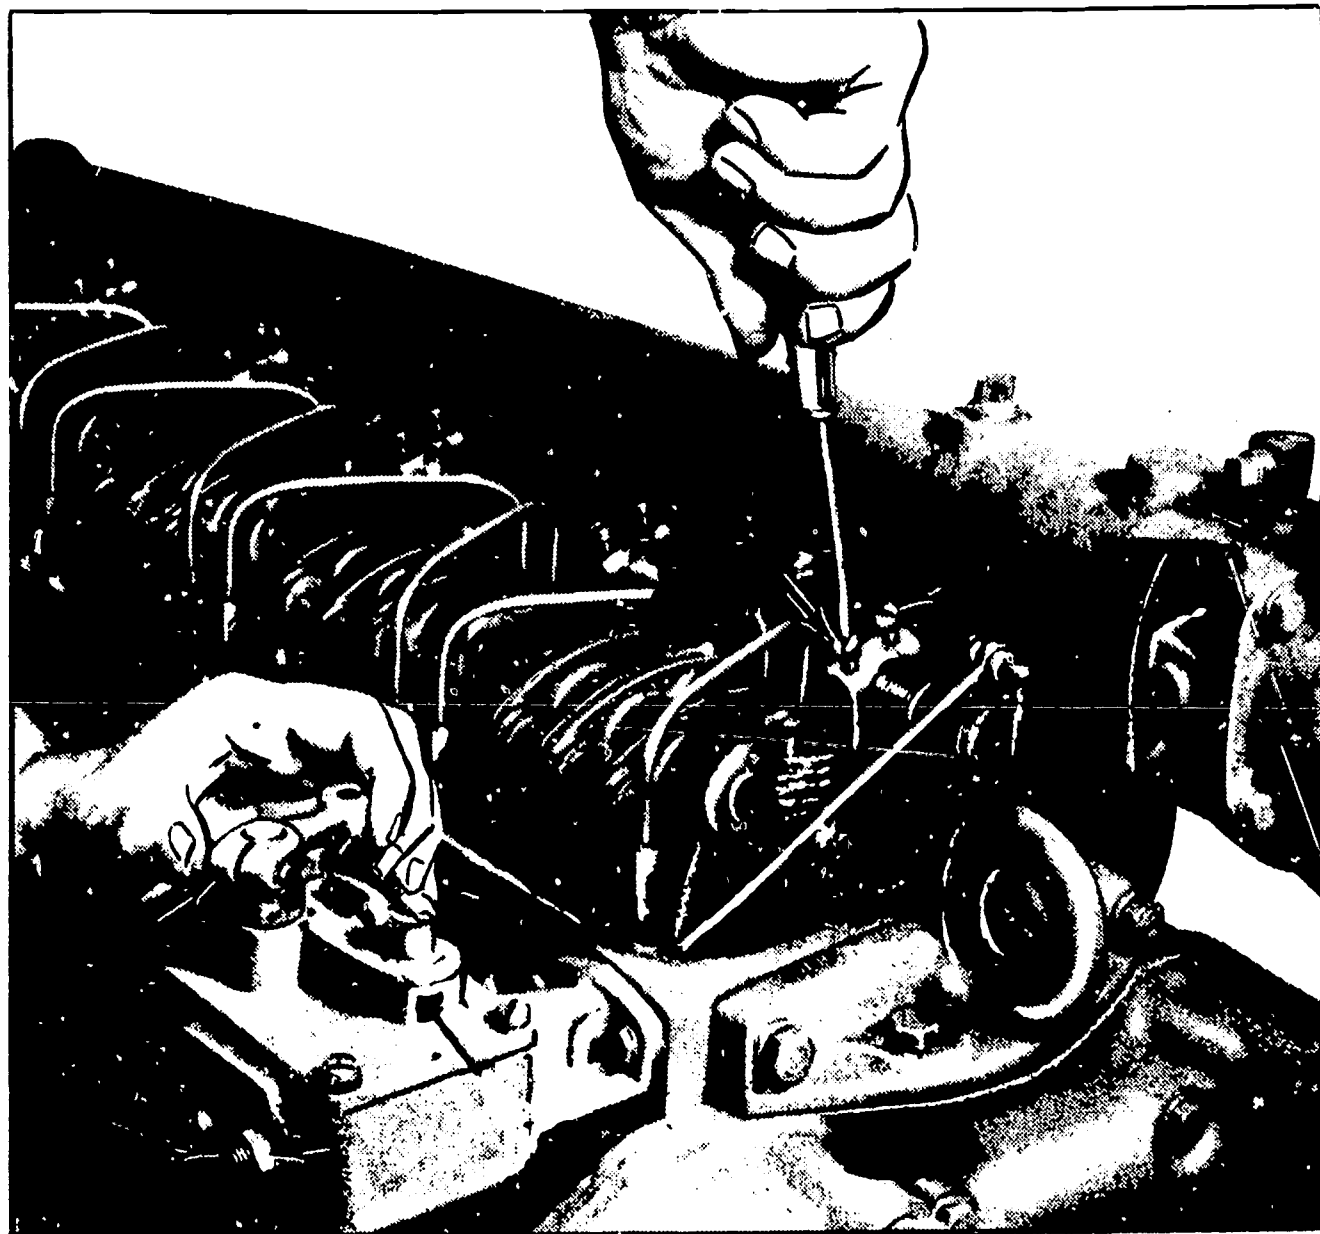

Fig. 5 - Positioning rack control levers.
4. Loosen all the inner and outer injector rack control lever adjusting screws; see Figure 5. Be sure all the injector rack control levers are free on the injector control tube.